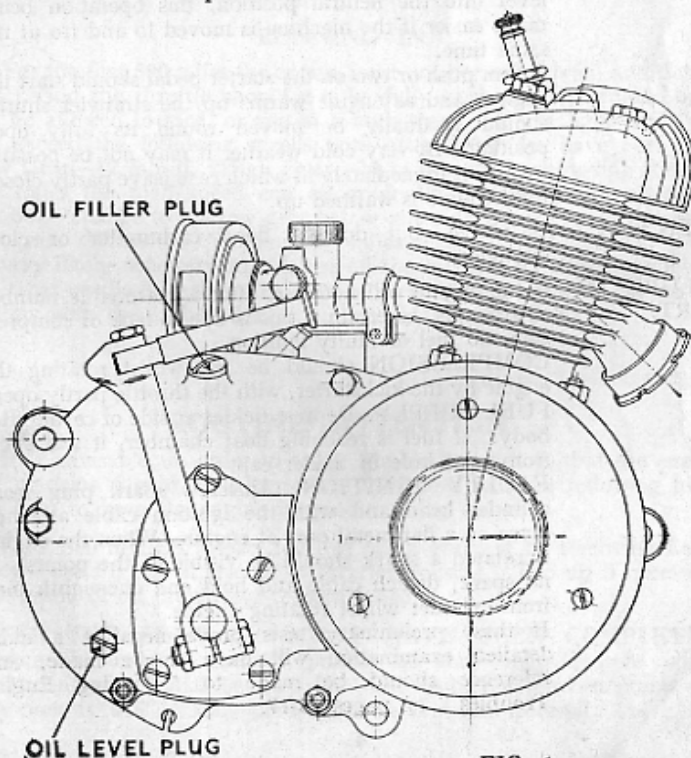

FIG. 1.
**GEARBOX AND CHAINCASE.** Remove the gearbox oil filler and oil level plugs, see FIG. 1 and with the cycle off the stand, pour in CASTROL "D" OIL (S.A.E.140) until it runs out at the level plug hole. Refit plugs securely. Examine every 500 miles and top up if necessary.
**EVERY 500 MILES** inspect level of oil in gearcase by removing Level Screw (See Fig. 1) at rear of kickstarter housing. Top up if necessary with grade of oil previously recommended.